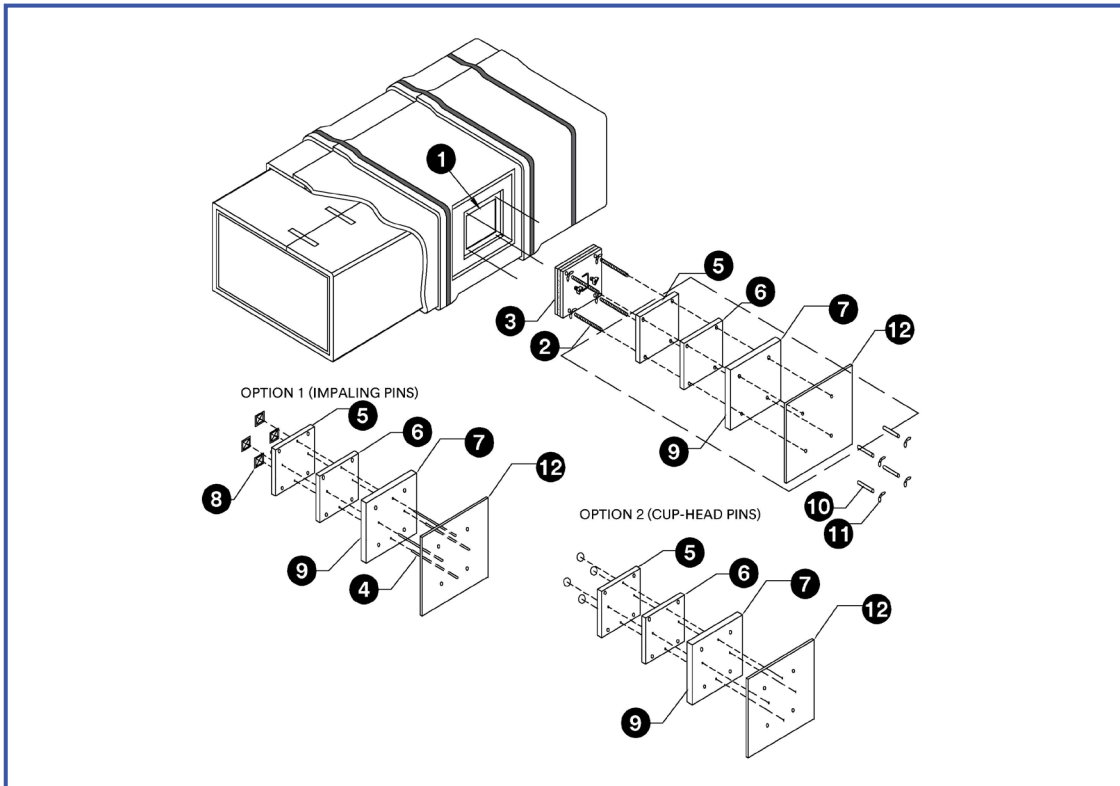

Figure 3a – Pre-fabricated 1 or 2-hour access door for commercial kitchen exhaust duct systems
When a specific item number is mentioned, it corresponds with numbered items in Figure 3a. Mark a clean-out access opening location on the grease duct with insulation at its mid-height along the horizontal section. Cut an opening max. 559 mm by 559 mm (22 in. by 22 in.) in the insulation, the same size as the outside dimension of the pre-fabricated access door (Ductmate ULtimate Door). Remove and discard the cut insulation. Cut an opening max. 508 mm by 508 mm opening (20 in. by 20 in.) into the side of the grease duct according to the manufacturer's instructions for the size of the pre-fabricated access door to be installed (Item 1). Install and tightly secure the pre-fabricated access door to the grease duct. Fit pre-fabricated access door with four (4), 9.5 mm (3/8 in.) diameter, corner-thumb bolts through the exterior face.